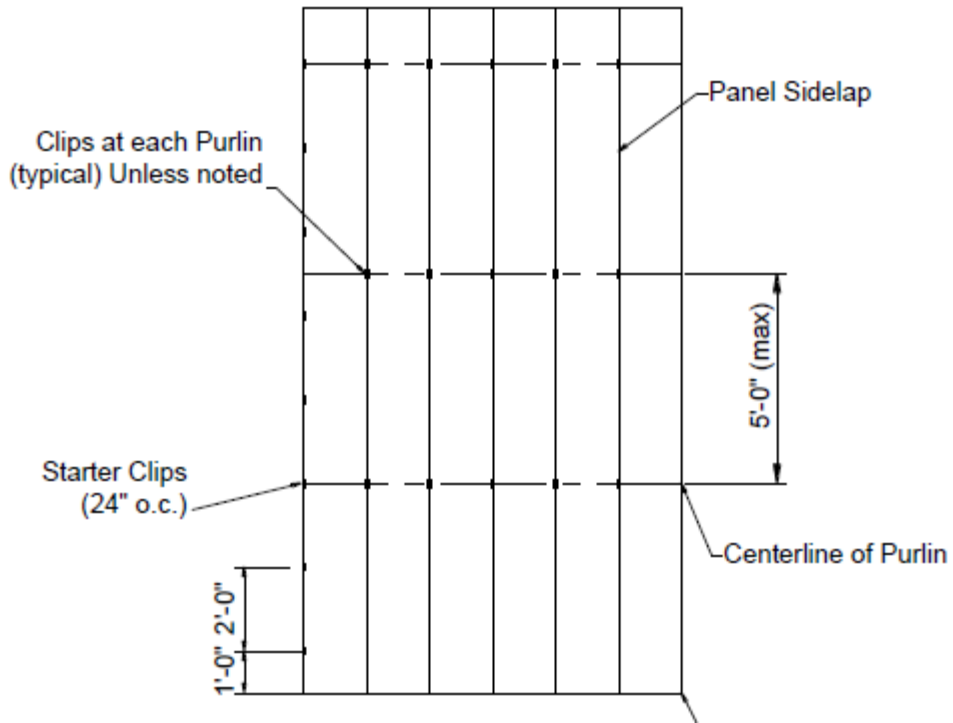

Figure 1 Minimum 24 Gauge Mueller Trapezoidal Lock (MTL) Panel Fastener Pattern
Attachment of Metal Roof Panels to the Steel Purlins: For panel to panel attachment must be secured to the steel purlins with MPS-602 standing seam roof clips (4.30" long, two-piece clip; clip tab: 0.031" 50 ksi G90 galvanized steel; clip base: 0.060" 50 ksi G90 galvanized steel) with two (2) 1/4 -14 Hex Washer Head SD screws per clip. The fasteners must be long enough to ensure a minimum penetration of 3 pitches of the thread below the steel purlin. Refer to Figure 1 in this evaluation report.